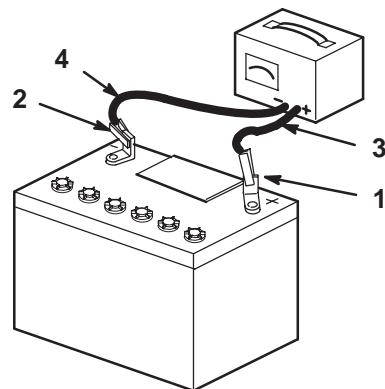

Figure 66
4. When the battery is fully charged, unplug the charger from the electrical outlet, then disconnect the charger leads from the battery posts (Fig. 66).